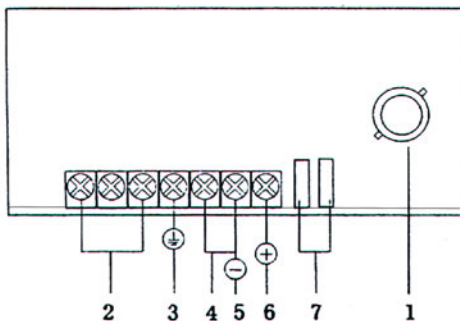

Figure 2
1. Ensure whether 7 (in Figure 2)—pH/ORP switch is selected properly.
2. When measuring pH, be sure that the ATC probe is connected to 4 (in Figure 2)—ATC Input.
2. Connect pH electrode to 1 (in Figure 2)--BNC connector and fasten it.
1. Insure that the pH/ORP switch (7 in Figure 2) is set on ORP .To set the switch to ORP, please insert the jumper into the inner two connectors.